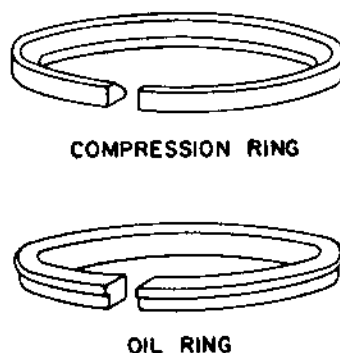

Figure 3-16. Piston Rings
d. If using double ring pistons, the oil ring is installed in the groove nearest the bottom and the compression ring in the groove nearest the top. The oil ring is notched on the outside circumference. This notch must be installed towards the bottom. (See figure 3-16.)